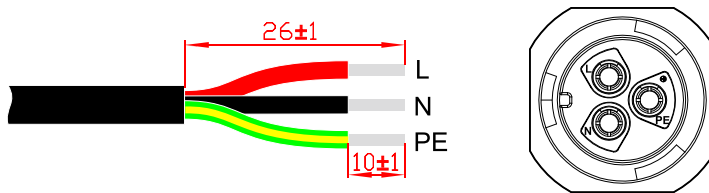

Figure3-48 Wire Stripping (unit: mm)
- Step 2 Strip wire for about 10mm, the strip instructions and BACKUP port markings are as shown in Figure3-48.